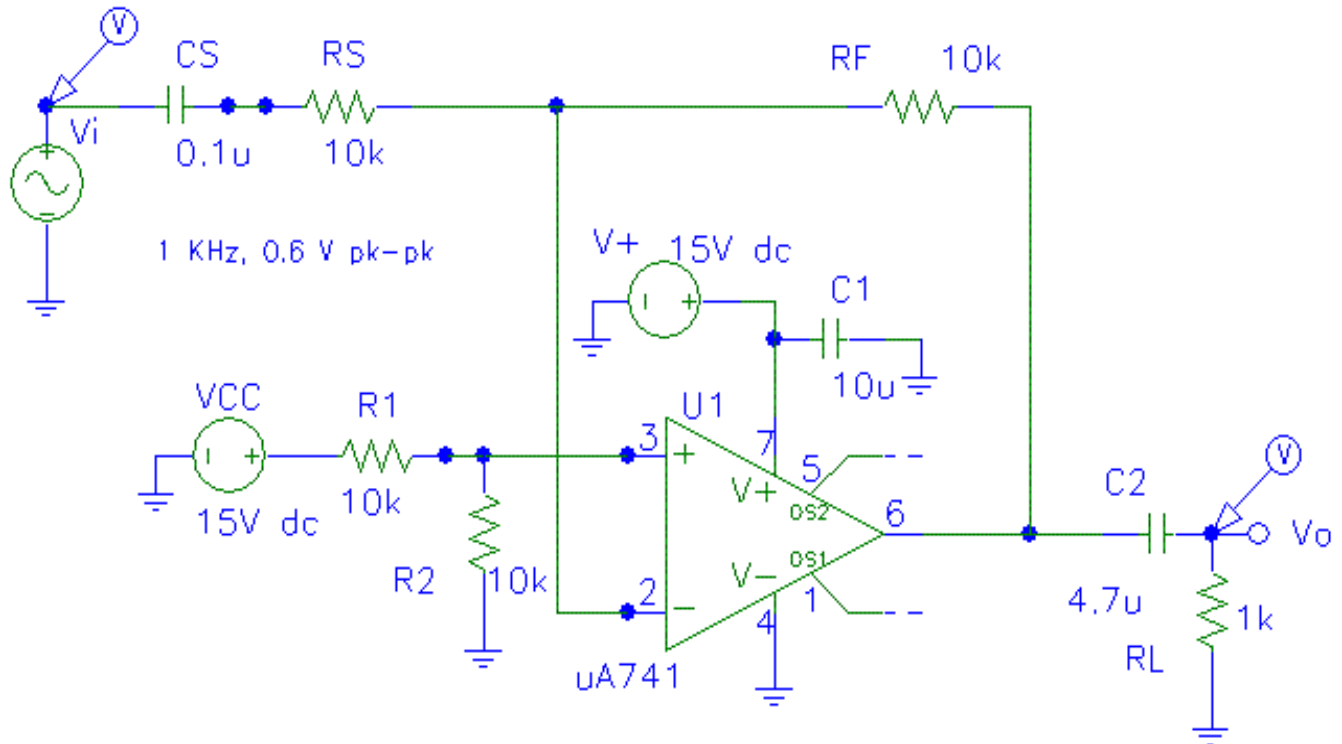

Fig. 2. Single supply inverting amplifier.
4. Turn off and disconnect the power from the breadboard and wire the inverting amplifier circuit shown in Figure 2. Set your oscilloscope to the following approximate settings:
9. Set  $R_f = 100 \text{ k}\Omega$  and channel 2 probe as in Fig. 2. Set the i/p frequency to 1 kHz and vary the i/p magnitude from 0.4v to 1.4 volts peak to peak in steps of 0.2 volt. Measure the o/p magnitude at each step and fill the table 3. Graph the o/p as a function of the i/p magnitude. Is the output directly proportional to the input (linear amplifier)? Explain.